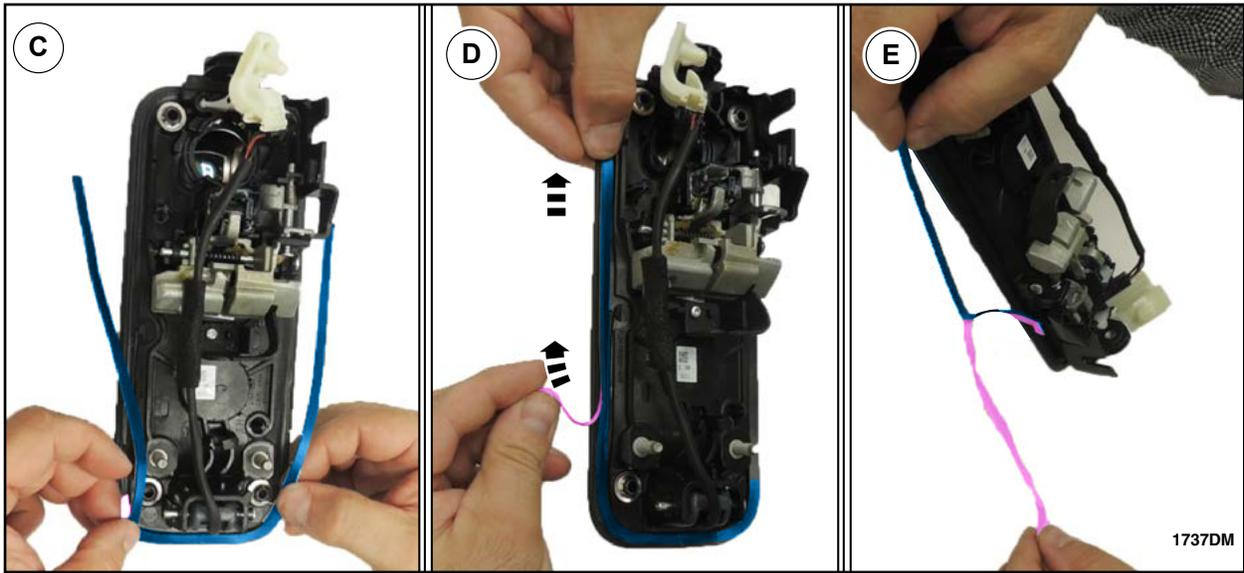

FIGURE 95
- C. Align the marks made on the Foam K and exterior door handle and adhere the back center portion to the exterior door handle as shown in Figure 95.
- D. Lay one side of Foam K down on the exterior door handle and without stretching the foam pull off the adhesive backing as you adhere Foam K to the exterior door handle as shown in Figure 95.
- E. Remove the protective backing from the other side leg of Foam K as shown in Figure 95.